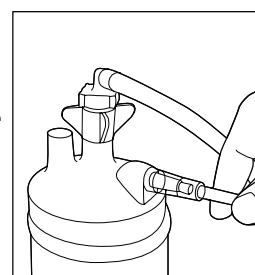

Figure 2
6. Attach the cannula tubing to the humidifier bottle outlet (see Figure 2).